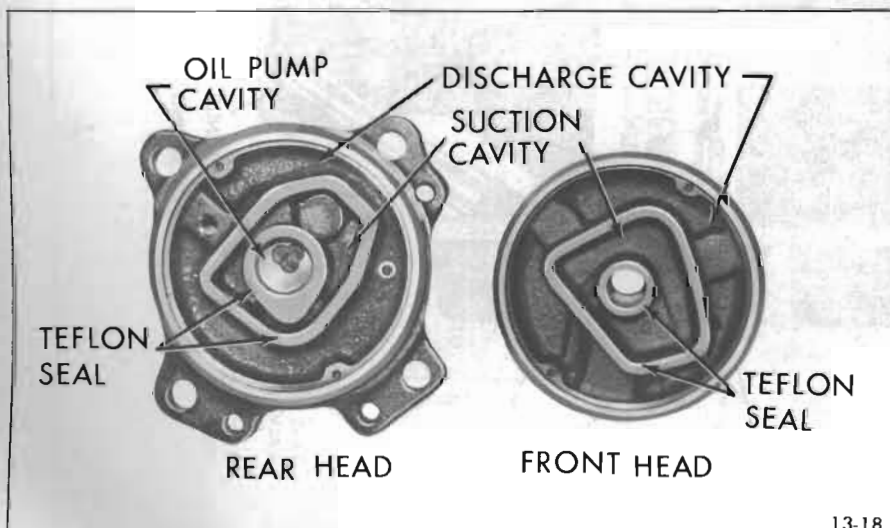

Figure 13-18—Compressor Front and Rear Heads
2. Front and Rear Heads--The front and rear heads (Figure 13-18) serve to channel the refrigerant into and out of the cylinder heads. The front head is divided into two separate passages and the rear head is divided into three separate passages. The outer passage on both the front and rear heads